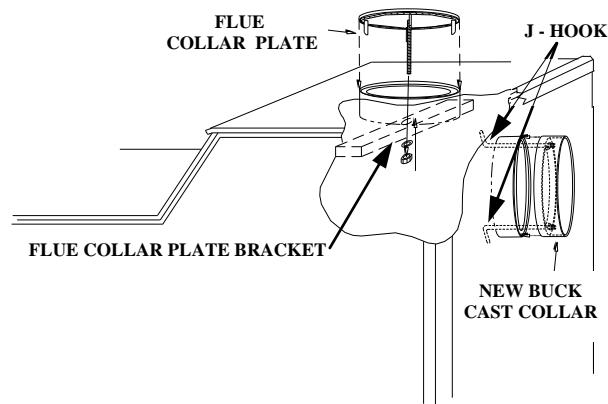

Figure 16.
7. Next fasten New Buck's Cast Collar Part number MA6CHIMNB to the flue exit of stove to be used, using the J hook's provided. Position collar with gasket towards the unit, tighten the J hook's **Firmly** secured. (See Figure 16).
8. Fasten New Buck's Flue Collar Plate to the exit not used for burning stove. **Firmly** secure the Flue Collar Plate Bracket with the nut and washer provided. (See Figure 16).